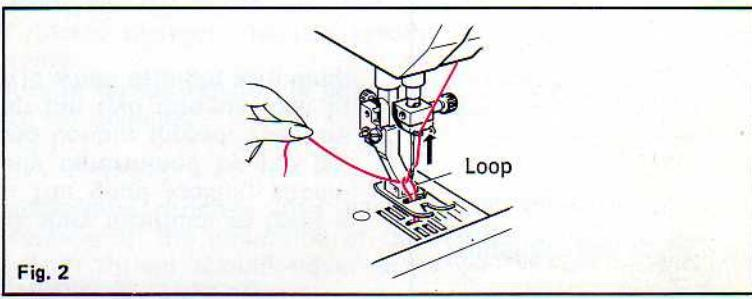

Fig. 2
Rotate hand wheel (18) toward you one complete turn. Bobbin thread will surface as a loop (see Fig. 2). Reach into loop with small screw-driver and pull loop free. Draw about 4" of both thread ends under presser foot and to rear of machine.